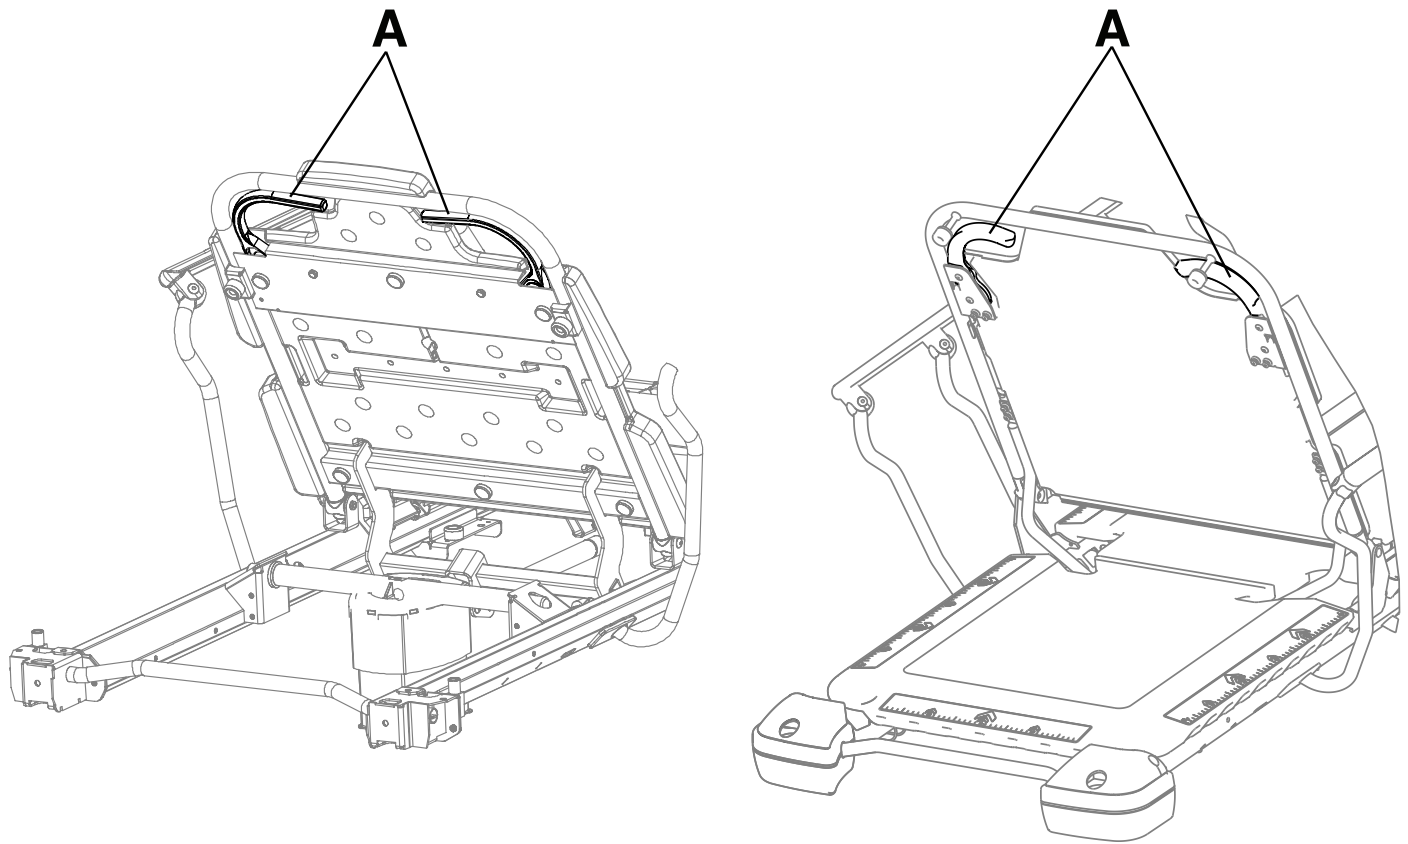

Figure 16 – Raising or lowering the Fowler backrest (Prime / Prime X)
To raise the Fowler backrest, squeeze one or both of the Fowler backrest release handles (A) and pull the Fowler backrest up to the desired position (0° to 90°) (Figure 16).
To lower the Fowler backrest, squeeze one or both of the Fowler backrest release handles (A) and push the Fowler backrest down to the desired position (90° to 0°) (Figure 16).